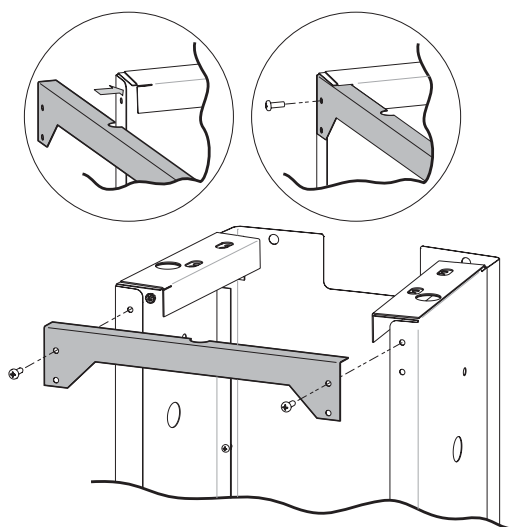

Figure 5
5. Attach Rear Brace to the Left and Right Side Assemblies with two 1/4-20 x 3/4" Phillips Truss Head screws and 1/4-20 Hex nuts. See Figure 5. Important: Make sure the brace goes in the cutout of the support bracket.